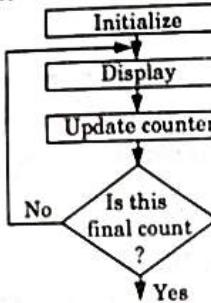

Fig. 2.16.1. Flow chart of a counter.
4. Fig. 2.16.1 shows the flow chart of counter operation.